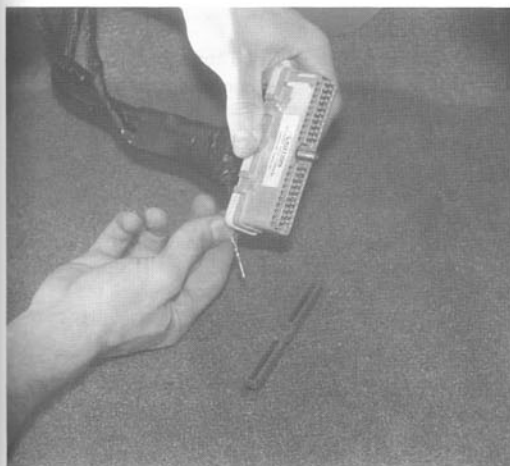

Fig. 3-2. Control module harness connector being back-probed to test pins (or use BreakOut Box).
- Backprobe at the control module connector as shown in Fig. 3-2. See the wiring diagrams in Chapter 12 for connector terminal identification